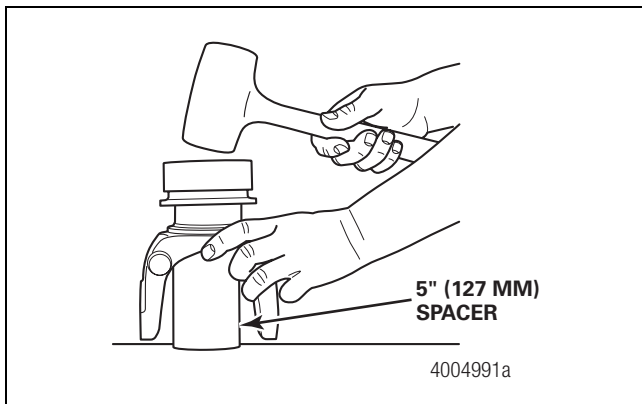

Figure 6.23
- **If you do not have a press:** Position the yoke on a five-inch (127 mm) spacer on a workbench. Use a dead-blow hammer and the appropriate driver to install the sleeve into the yoke. Figure 6.23.